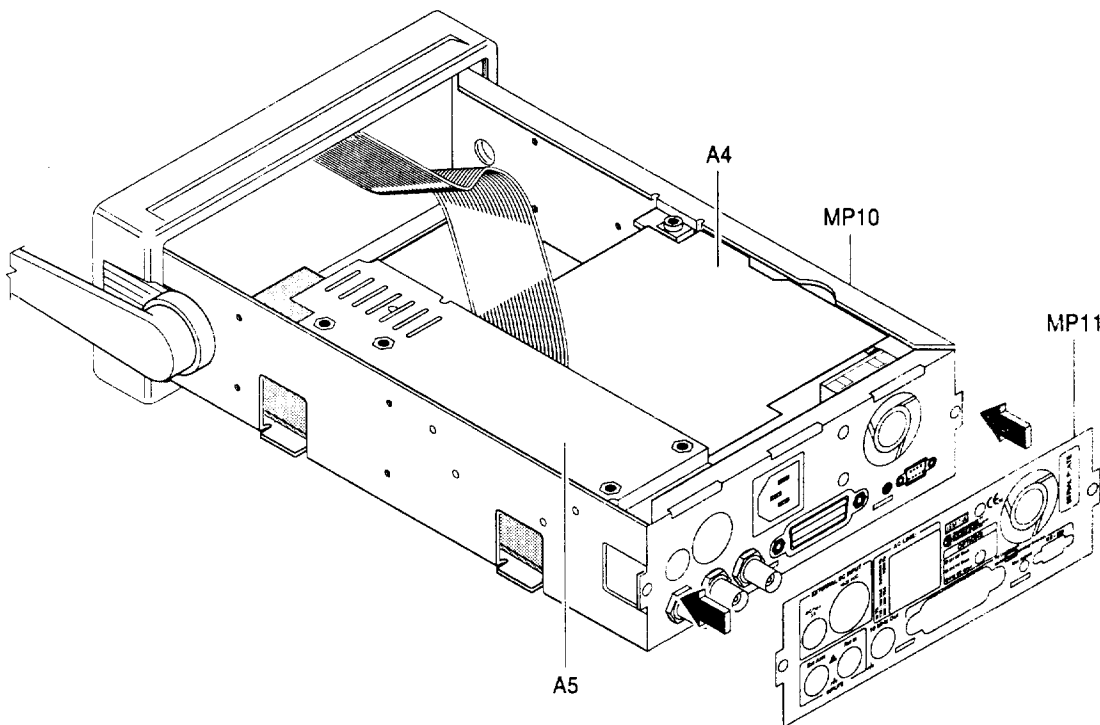

Figure 4-2D. DC Power Input Assembly Retrofitting
- 11 To install the rear label (MP11), remove the protective seal from the back of it and press into place making sure to properly align the label with the holes in the rear of chassis as shown in Figure 4-2D.**